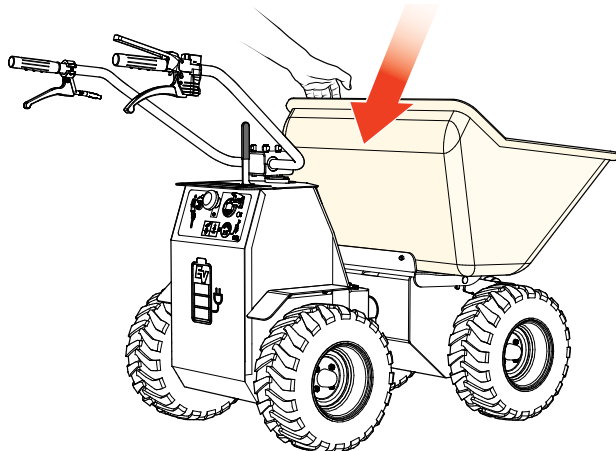

Figure 15. Tub Horizontal Position
2. To return the tub back to the horizontal position, grab hold of the tub (Figure 15) and push down.